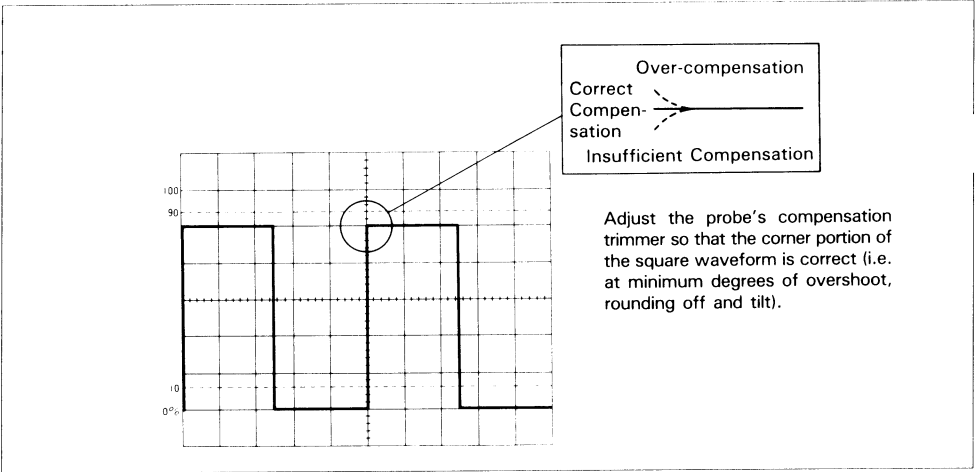

Figure 3. Probe Compensation Adjustment
4. Plug the probes (PC-35) into the INPUT jacks of each channel. Set the AC-GND-DC control at DC and the VERT MODE control at CH1. Plug the CH1 probe to the CAL terminal and set the VOLTS/DIV control at 20mV/DIV. Adjust the \blacktriangledown POSITION control so that all of the waveform can be seen. With the waveform in this position, carry out probe compensation adjustment using Figure 3 and the probe Instruction Manual.